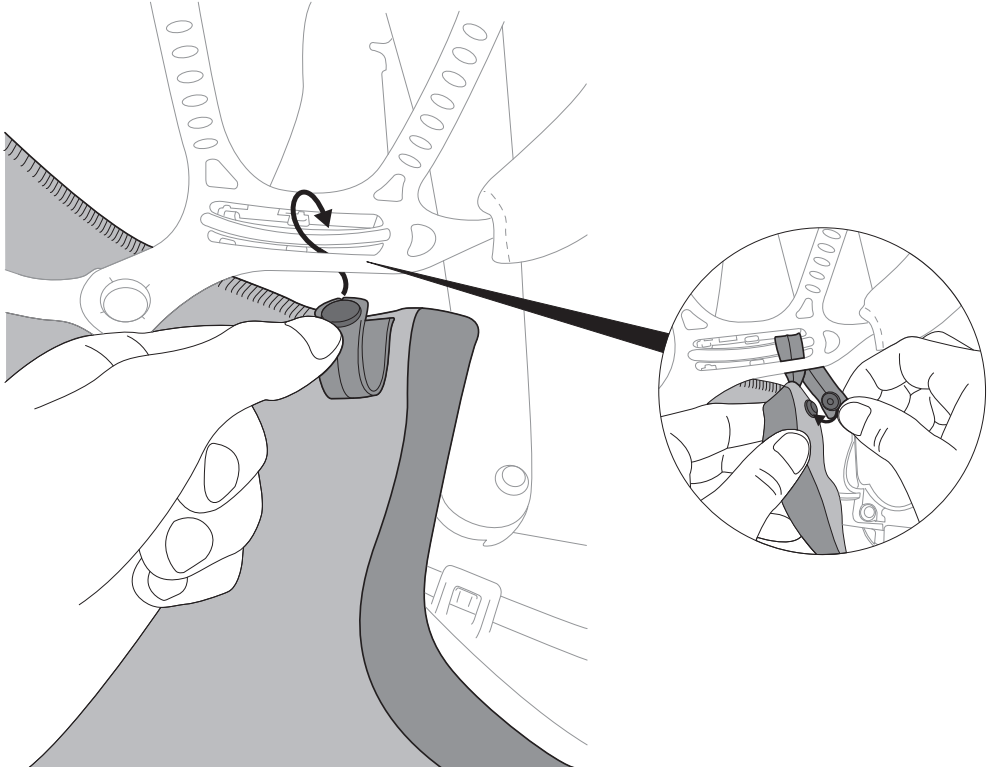

Fig. 18f
e. Feed the right and left side shroud elastic snaps around the slide rails of the head suspension and snap into place (Fig. 18f).